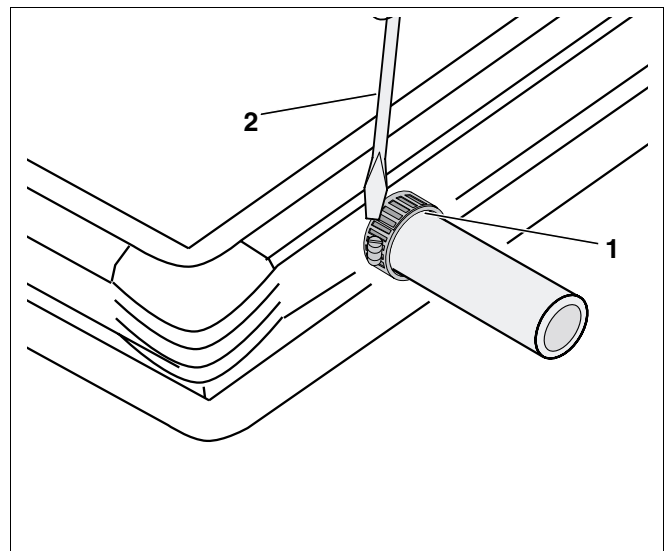

Fig.2 Assembly – stainless steel jubilee clips
- Push the stainless steel jubilee clips (Fig. 2, **Item 1**) onto the connector.
- Lightly tighten the stainless steel jubilee clips with a screwdriver (approx. 2–3Nm) (Fig. 2, **Item 2**).